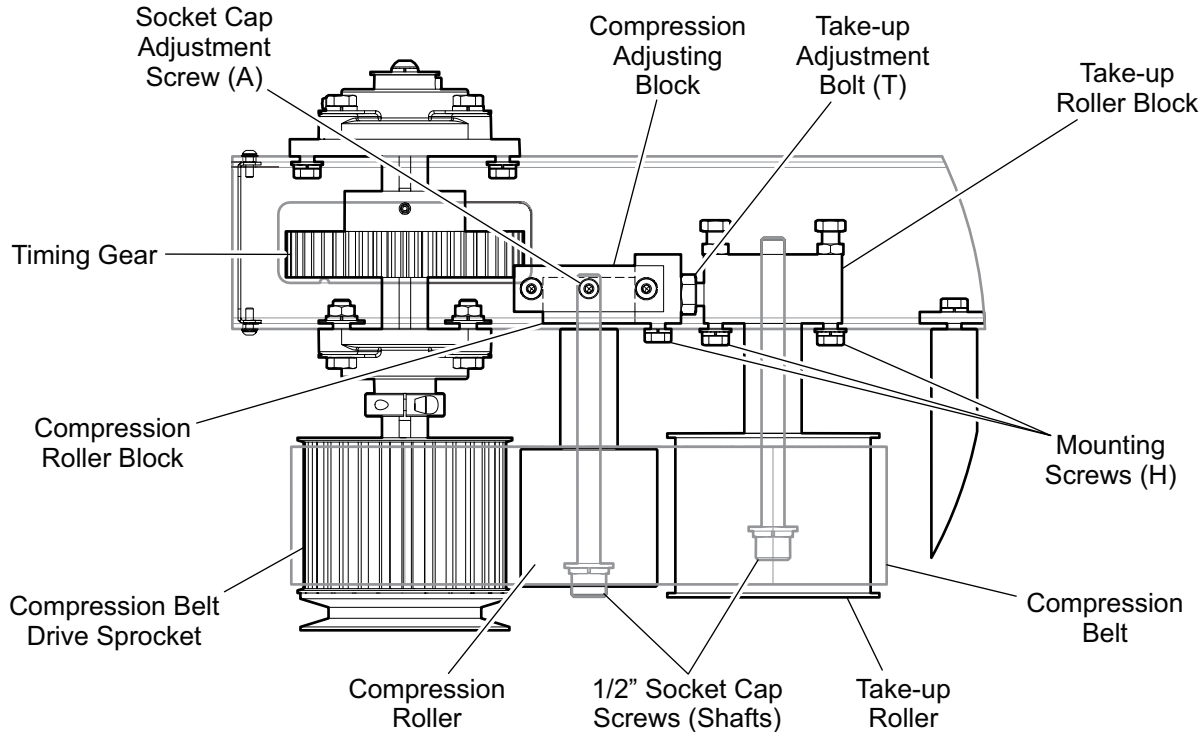

Figure 5-6: Fixed Channel Compression Roller Components
- The rear compression roller assembly is held in position by the ½ inch socket cap screw, which acts as the shaft for the roller (see Figure 5-6: Fixed Channel Compression Roller Components). To move the compression roller, loosen the screw just enough to allow the roller to move. Loosening the screw too much will allow the screw (shaft) to skew too much to accurately align the compression belt.